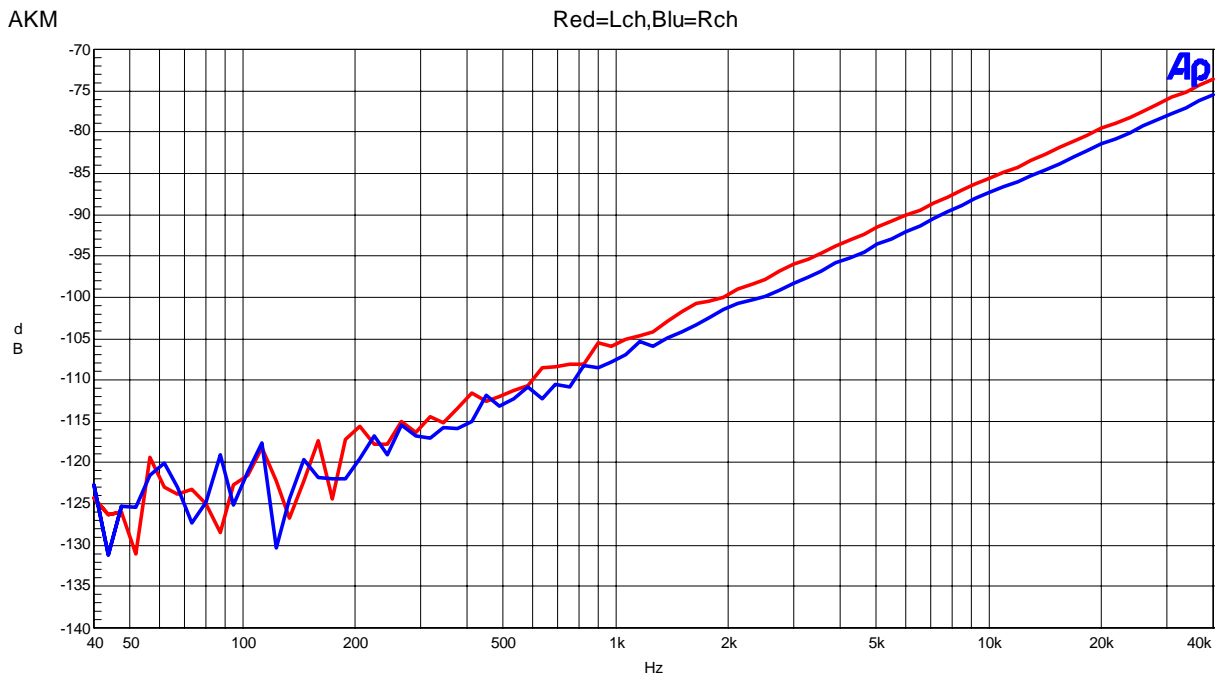

Figure 16. Crosstalk (Input Level=-0.5dBFS)
- Figure 16. FFT (Input Frequency =1kHz, Input Level =-60dBFS)